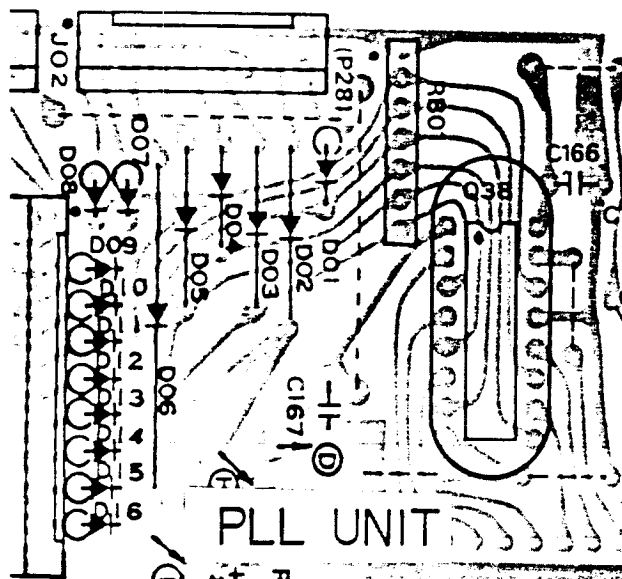

Figure 2-9
- 5) Cut all the pins of Q₂₀₃₈ from the component side, and unsolder the pins, as shown in Fig. 2-9.